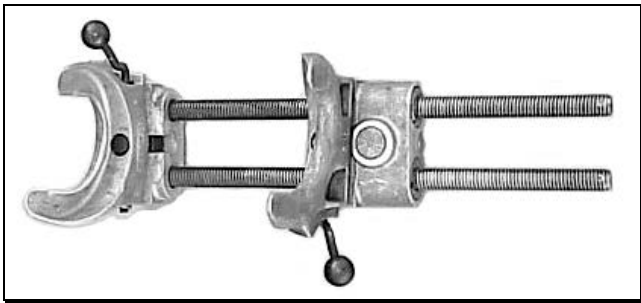

Figure 7
- 3) Compress the new front coil spring to 16 inches in length. Use a quality spring compressor like the one shown in figure 7.